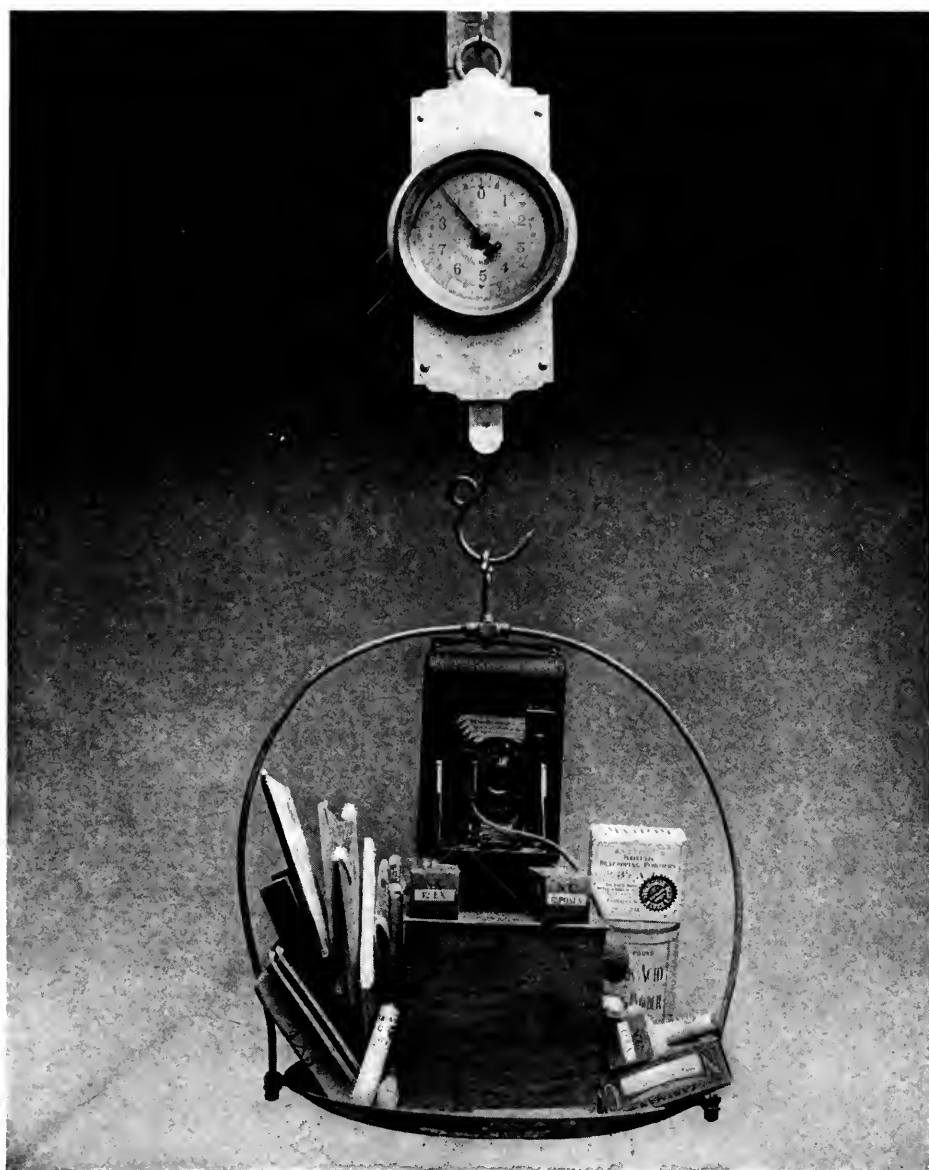

Figure 1.
Forgiveness is freely extended to the incredulous. But if you will look at the picture of such an outfit on the scales (Figure 1) you may the more readily credit what I say. Here is (1) a kodak (2) a developing tank with box, apron and